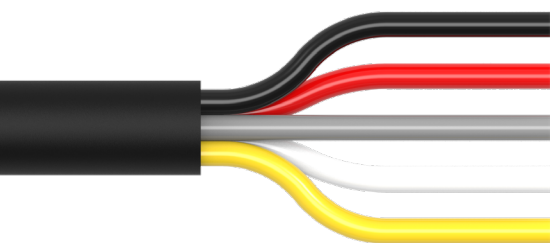

FIG. 4
1. Plug the provided 5 Core Pigtail (C) into the switch connector on the Main Harness (A). See Fig. 4 for individual wire functions.